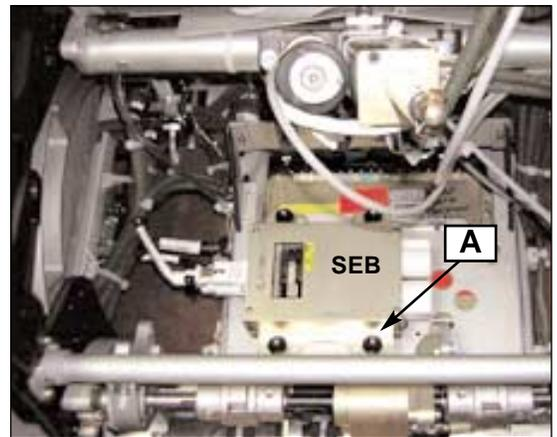

FIG. 320:
- (1) Remove SEB by acting on its four nylatches (A) (see Fig. 320, 320A).